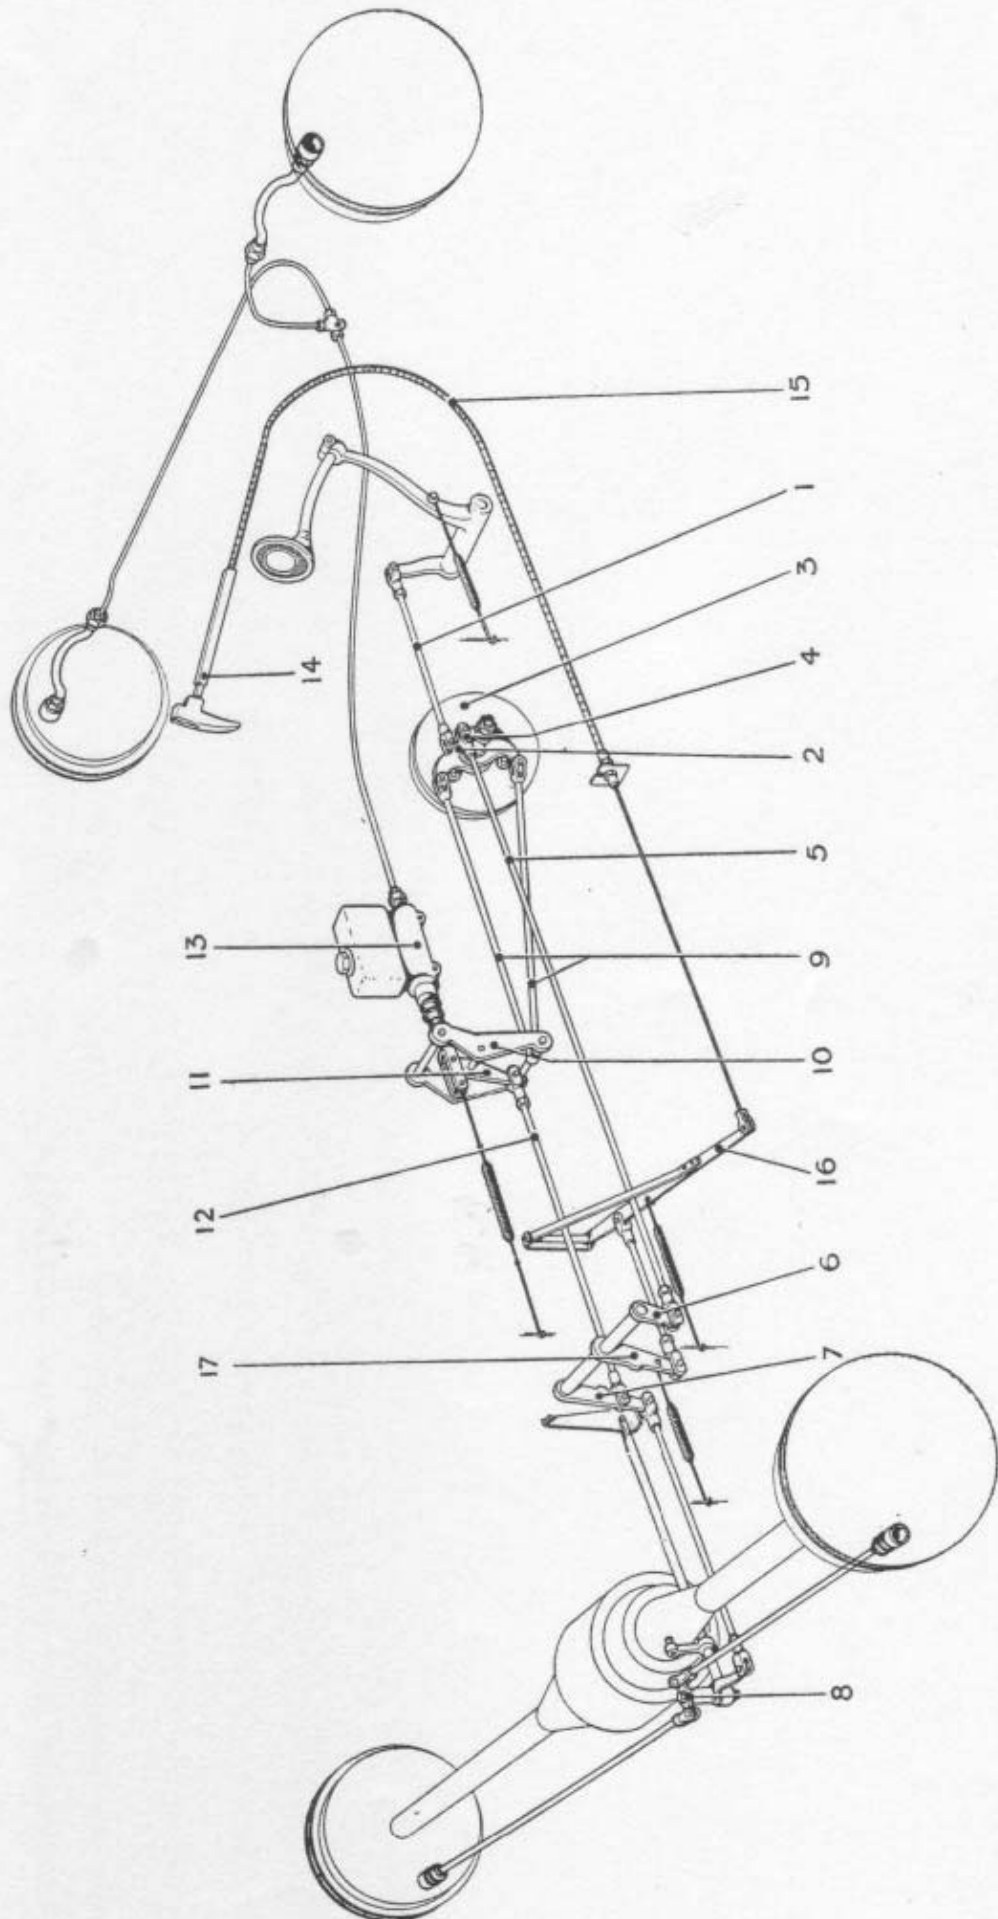

FIG. 15.—DIAGRAM OF BENTLEY BRAKING SYSTEM.
A diagrammatic representation of the whole system is shown in Fig. 15.
A pull rod (1, Fig. 15), operated by the pedal, is coupled to a lever (2), on the servo motor shaft, the motor itself (3) being mounted on the off-side of the gearbox, and driven at approximately one-tenth of the propeller shaft speed.
The servo is of the dry disc-brake type, and is shown in Fig. 15. An adjustment is provided for the initial setting and wear of the friction surfaces, but once correctly set, should require no further attention for a considerable period, as very little wear occurs. As the operation is of a delicate nature it is advised that this adjustment should be effected by Messrs. Bentley Motors (1931) Ltd., or one of their "Special Retailers".
The only points that require attention are the jaws and pins of the pull rods and intermediate levers (6, 7 and 17, Fig. 15). Oil should be applied to these points every 5,000 miles, as directed on page 31. The ball bearing cams which actuate the servo (as described earlier in this chapter) are filled with lubricant upon initial build, and require no attention between overhauls of the chassis.